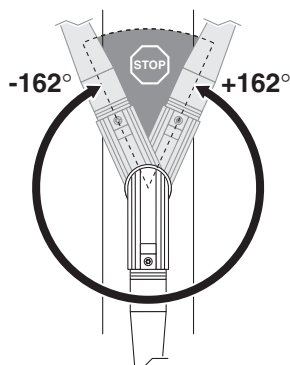

Abb. 18: Rotary angle of the angle plug at the cable outlet
- ▶ Observe the angle of turn of the angle plug, see fig. 18 on page 150.